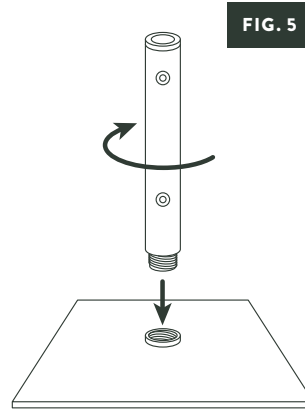

FIG. 5
1. Place the base flat on the ground, align the pole on the top of the base plate, and secure by screwing the pole into the base plate. (Fig. 5)